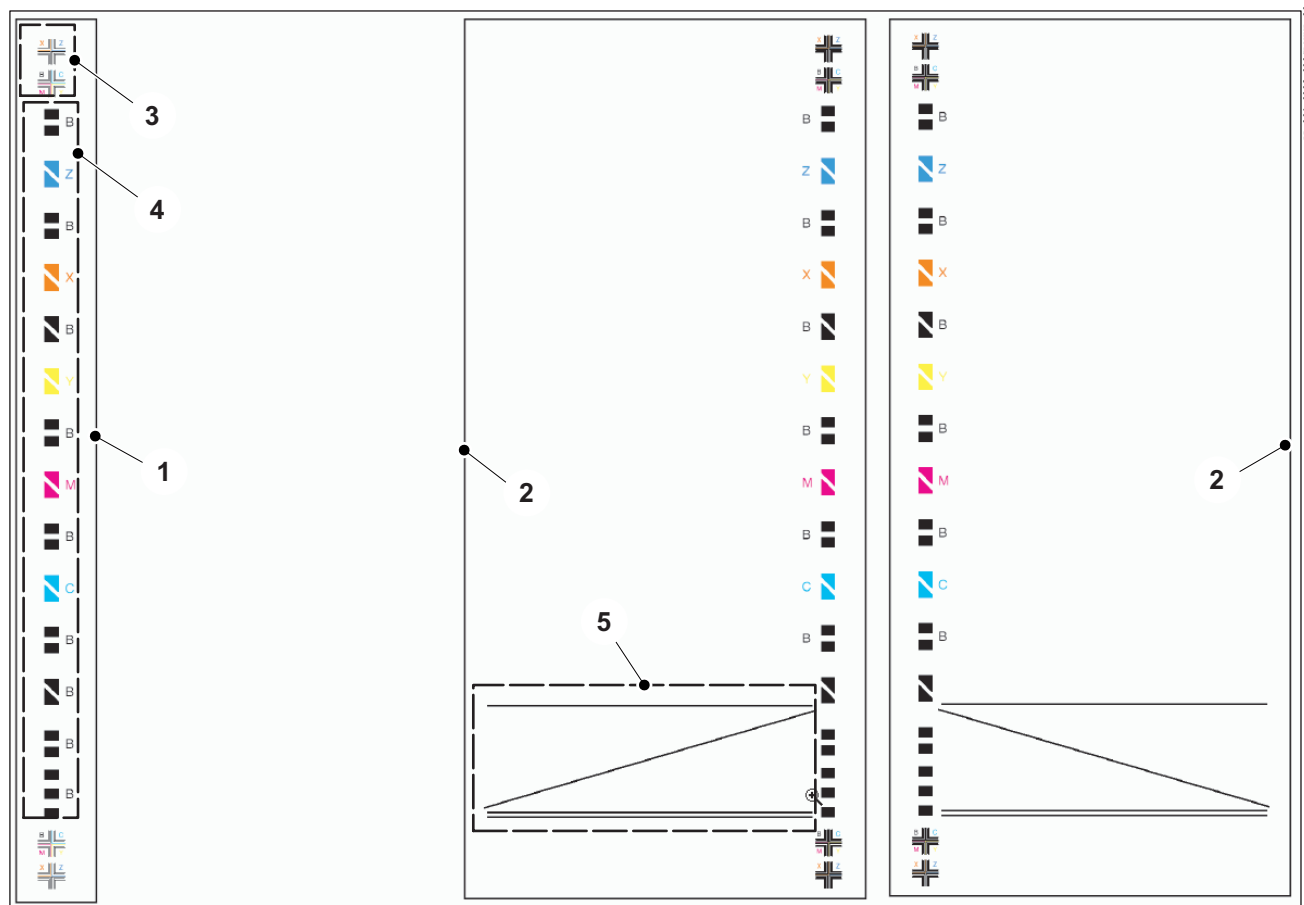

Fig. 6 Control marks
- This control mark with no search mark (Fig. 6/1) can be positioned on both the left and right-hand edge of the sheet. This control mark consists of the crosshairs for visual monitoring (Fig. 6/3) and the measurement fields area for Prinect Auto Register (Fig. 6/4).
The control marks AR_L and AR_R, Fig. 6/2 consist of crosshairs, measurement fields and the additional search mark (Fig. 6/5), which enable the exact position of the control mark to be found quickly without user input.